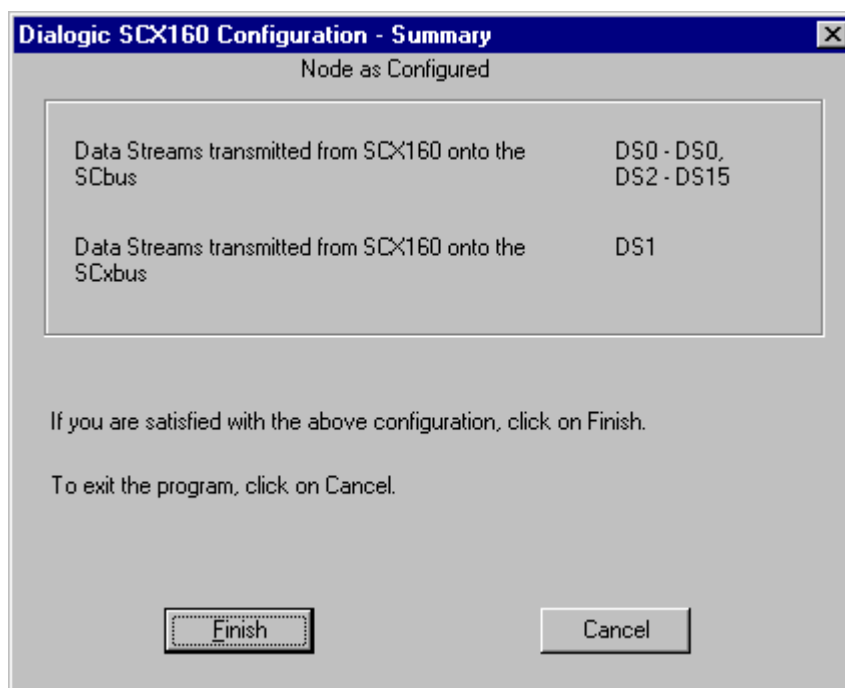

Figure 48. Node as Configured - Summary Window
15. The configuration values listed in *Figure 48. Node as Configured - Summary Window* are: